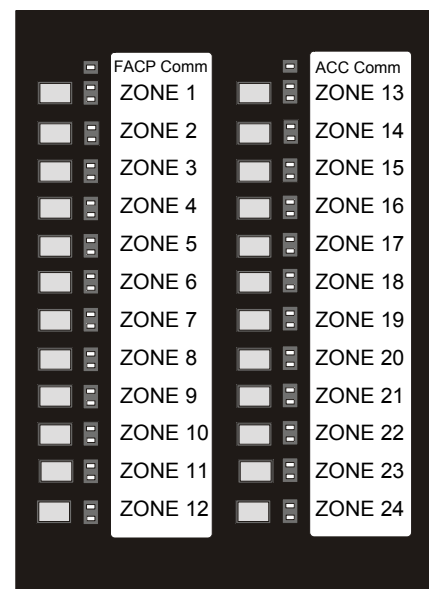

Figure 4.4 NFV-ZPMK Keypad/Annunciator
4.4.2 NFV-ZMPK LEDs Visible with Backbox Door Closed (Figure 4.4 on page 65)
A green LED that remains on when an FACP is connected to the NFV-25/50ZS & NFV-25/50ZST via the ACS (EIA-485) link from TB1 of the NFV-ZPMK to the ACS terminal on the FACP. If the LED fails to light, an FACP is not connected or the ACS wiring is faulty. The LED is located in the top left of the keypad (refer to Figure 4.4 on page 65 for location).
A green LED that remains on when the NFV-ZPMK is properly communicating with the NFV-25/50ZS & NFV-25/50ZST main circuit board via the connecting cable. If the LED fails to light, communication has been lost between the NFV-ZPMK and audio panel. The LED is located in the top right of the keypad (refer to Figure 4.4 on page 65 for location).